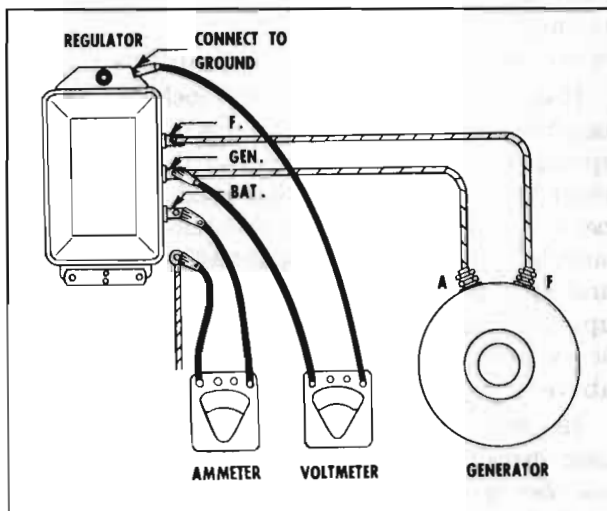

Figure 10-15—Testing Cutout Relay
4. Turn voltmeter selector switch to position for 12 volt system. Then connect voltmeter red lead to "GEN" terminal of regulator and voltmeter black lead to ground on base plate of regulator. See figure 10-15.